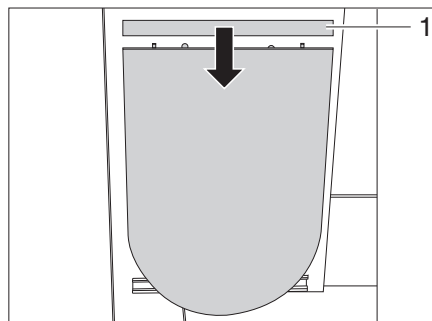

Fig. 42 Folding table, folded in
- Place the table-top extension (Fig. 42/1) at the top into the wooden dowel.